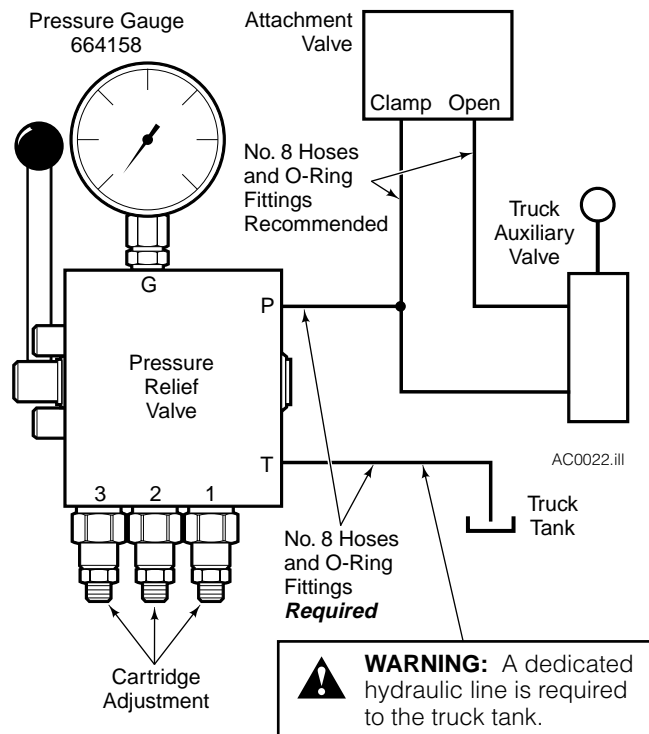

Figure 3
- 2 Attach hoses and fittings (No. 8 with 13/32 in. ID min.) between the Pressure Relief Valve, Truck Auxiliary Valve, Truck Tank and Attachment Valve. See Figure 3.
- To preset the valve relief cartridges, install a 3000 psi pressure gauge (Part No. 664158) in the valve gauge port. See Figure 3.